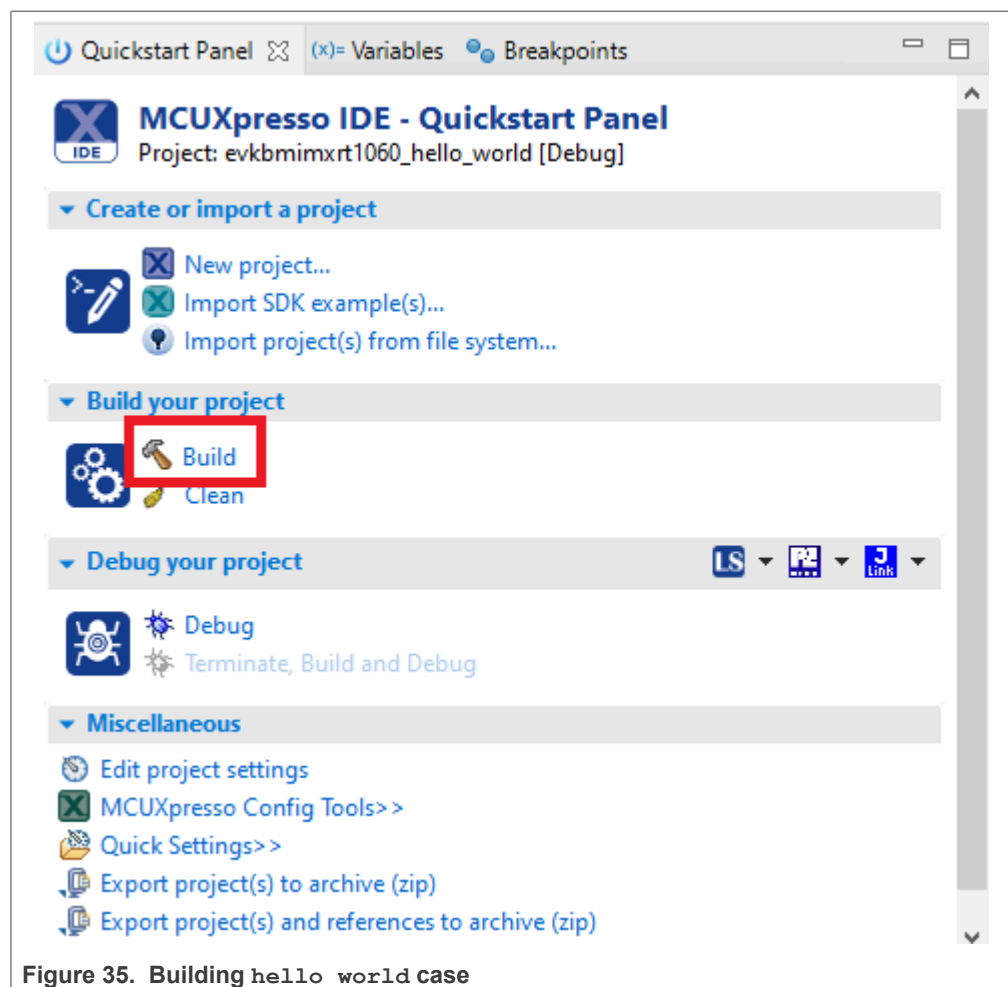

Figure 35. Building hello world case
6. On the **Quickstart** panel, click **build evkbmimxrt1060\_demo\_apps\_hello\_world [Debug]** , as shown in Figure 35.